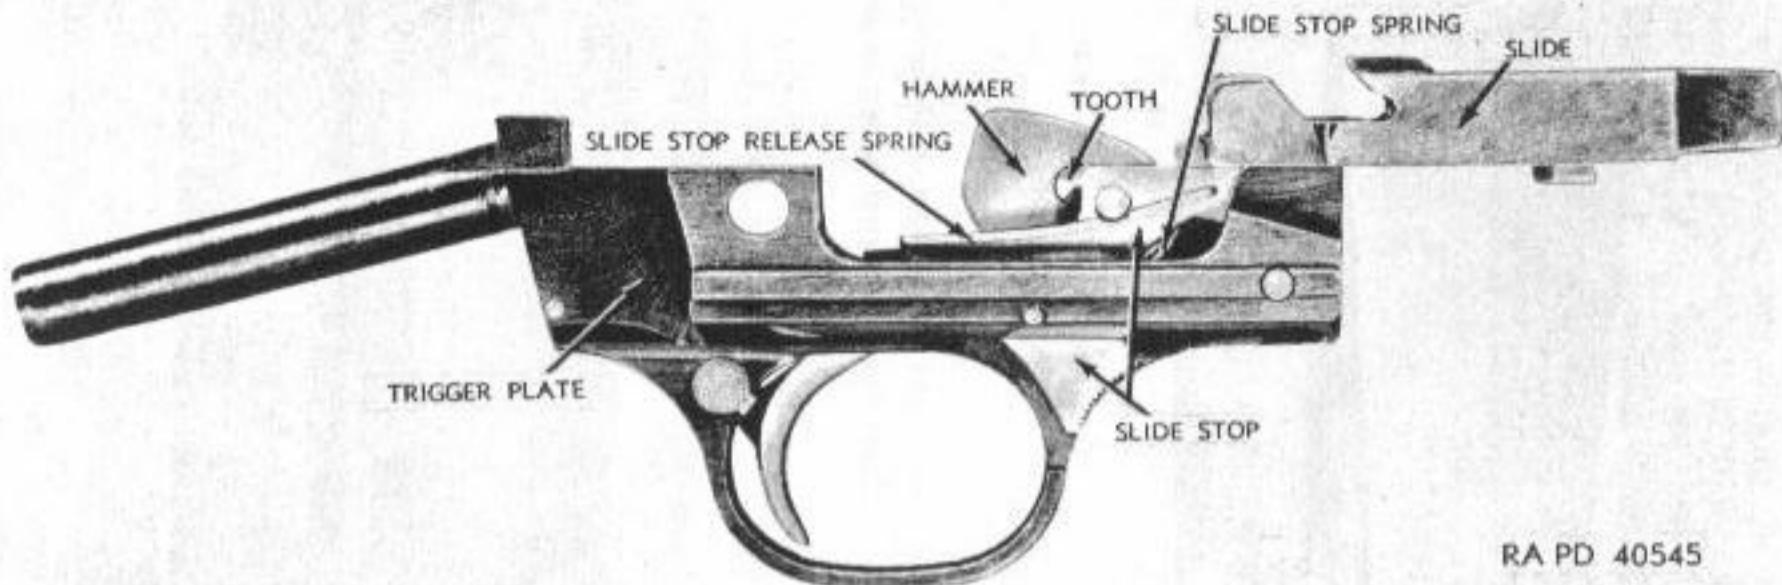

Figure 61—Slide and Trigger Plate Groups—Slide Riding Over Stop—Hammer Locked—Ithaca Shotgun M37
e. As the hammer reaches the extreme rearward position, a lug on the hammer is caught and held by a hook on the slide stop, and is so held until the slide nears the forward position and the breechblock has been cammed up in front of the locking shoulder in the top of the receiver (fig. 61). At this point, about $\frac{1}{4}$ inch from the extreme forward position of the slide, the slide cams the stop from engagement with the hammer and the sear immediately engages and retains the hammer in the cocked position, thus preventing premature firing of the gun.